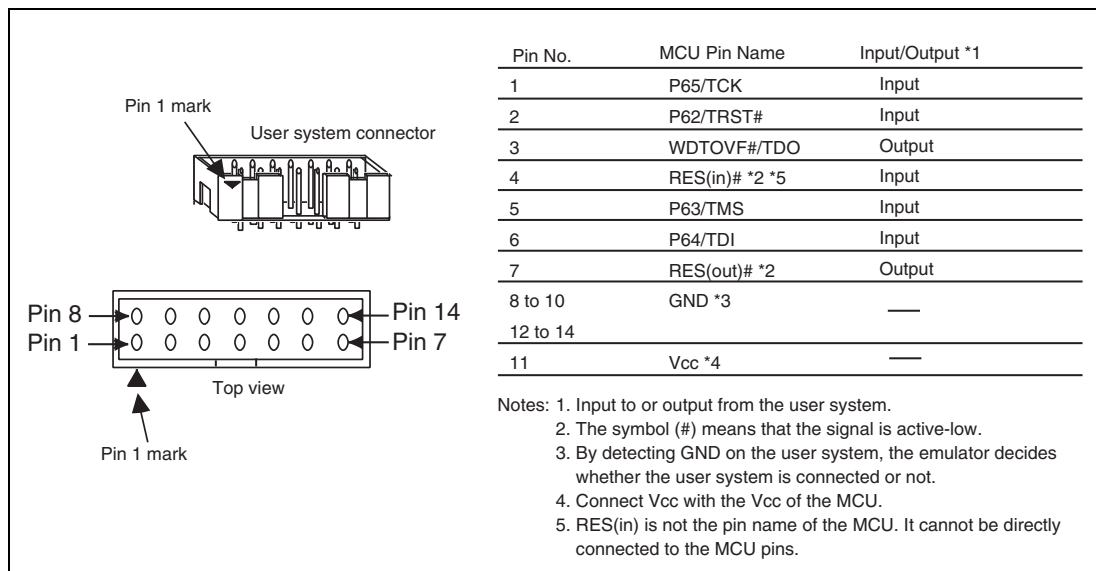

Figure 1.2 Pin Assignments of the User System Connector
Figure 1.2 shows the pin assignments of the user system connector.
4. The emulator communicates with the MCU by using the pins shown in figure 1.2 in section 1.3. These pins cannot be used.